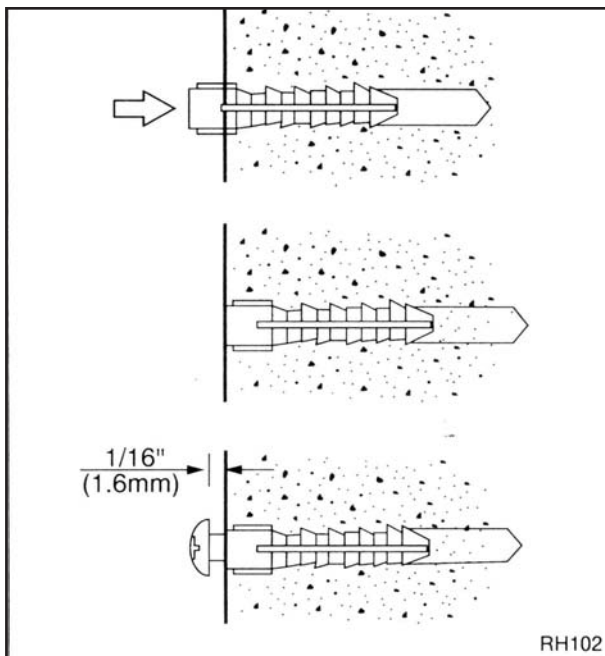

Fig. 4 Wall anchor.
3. Insert plastic anchor. Tap anchor flush to wall. (Fig. 4)
4. Insert screw into wall anchor leaving screw head out far enough to attach heater. (Fig. 4)